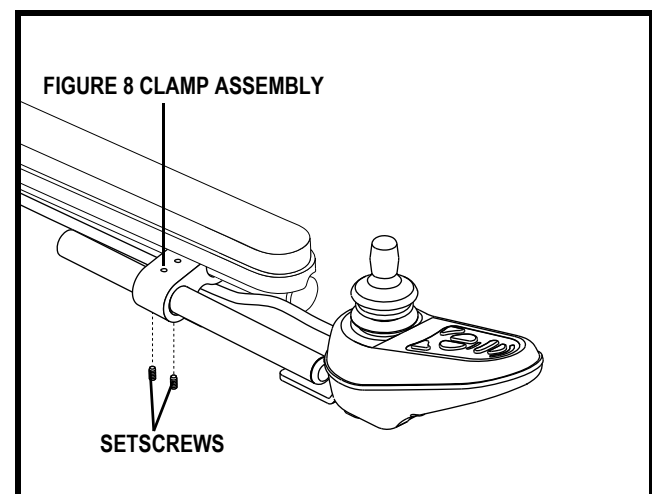

Figure 20. Controller Position (Figure 8 Assembly)
4. Loosen the setscrews on the figure 8 clamp assembly located on the armrest. See figure 20.